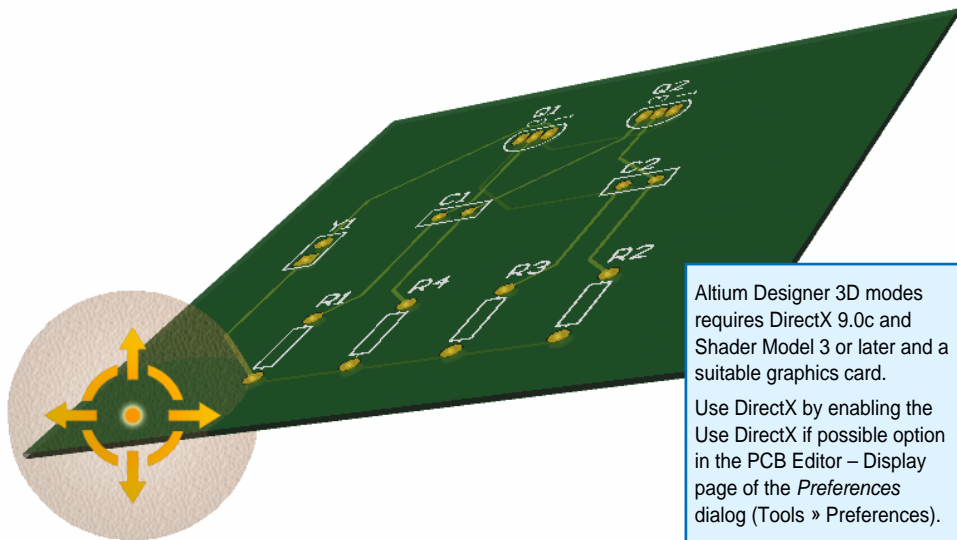

Figure 9. The 3D view rotation sphere.
**Rotation** - Hold down **SHIFT** to enter 3D rotation mode. This is represented on screen as a directional sphere at the cursor position (see Figure 9). Rotational movement of the model is made about the center of the sphere using the following controls: